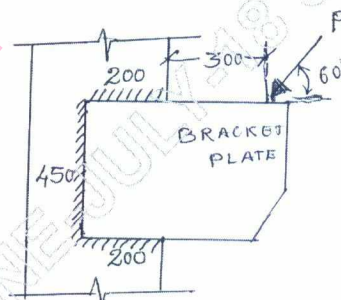

Fig. Q3 (b)
b. Determine the Bracket load 'P' the column can carry as shown in Fig. Q3 (b). Take size of weld as 8 mm,  $f_u = 410 \text{ N/mm}^2$ . (14 Marks)